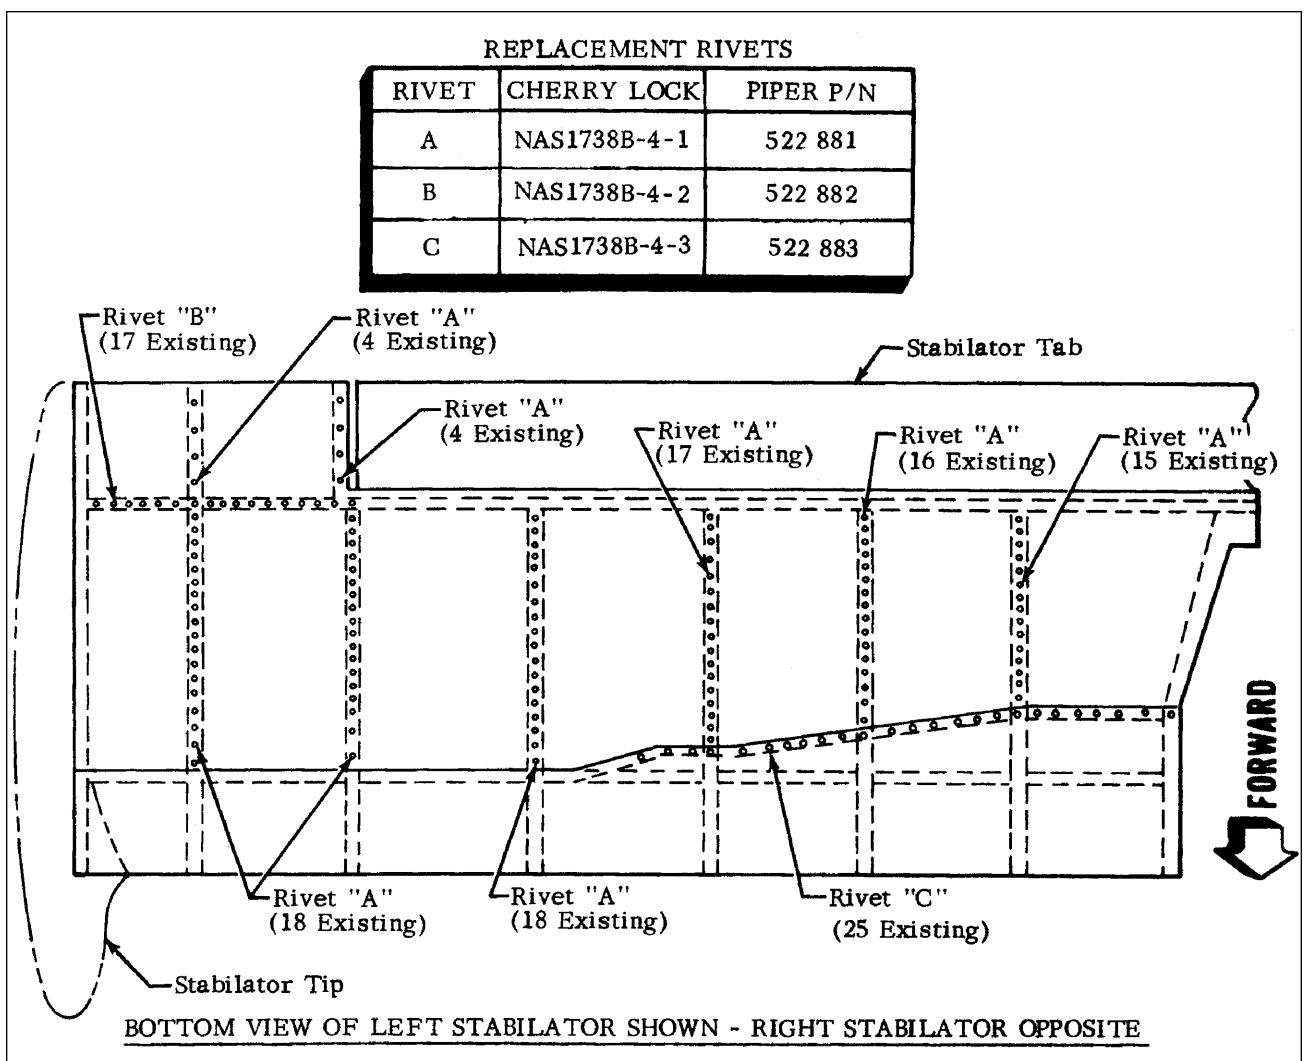

Figure 3-6. Stabilator Lower Surface Rivets And Rib Attachment
- 1 Inspect the lower surface of the left and right stabilator assemblies for evidence of loose blind rivets. See Figure 3-6 for location of existing blind rivets. (Loose rivets may be noted by the presence of dark streaks downstream of the rivet heads.)
- 1 Install additional cherry lock rivets (see Figure 3-x3) mid-spaced between the existing blind rivets in the ribs and rear spar on the bottom surface of the stabilator. (The new cherry lock rivets must be installed between all existing blind rivets shown as Rivets “A” & “B” in Figure 3-6.)